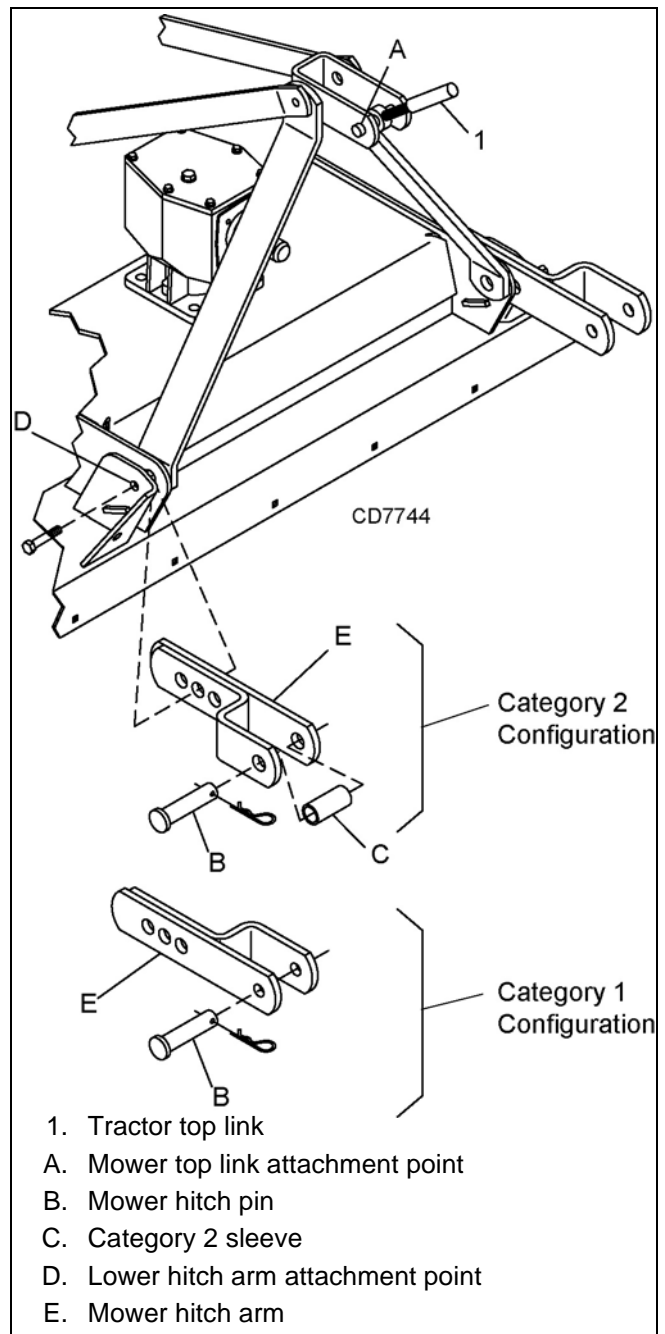

Figure 30. Hitch Arm Installation
1. Remove cap screws, lock nuts and hitch arms (E) from lower hitch arm attachment point (D).
2. Position arms according to Figure 30 and replace hardware.